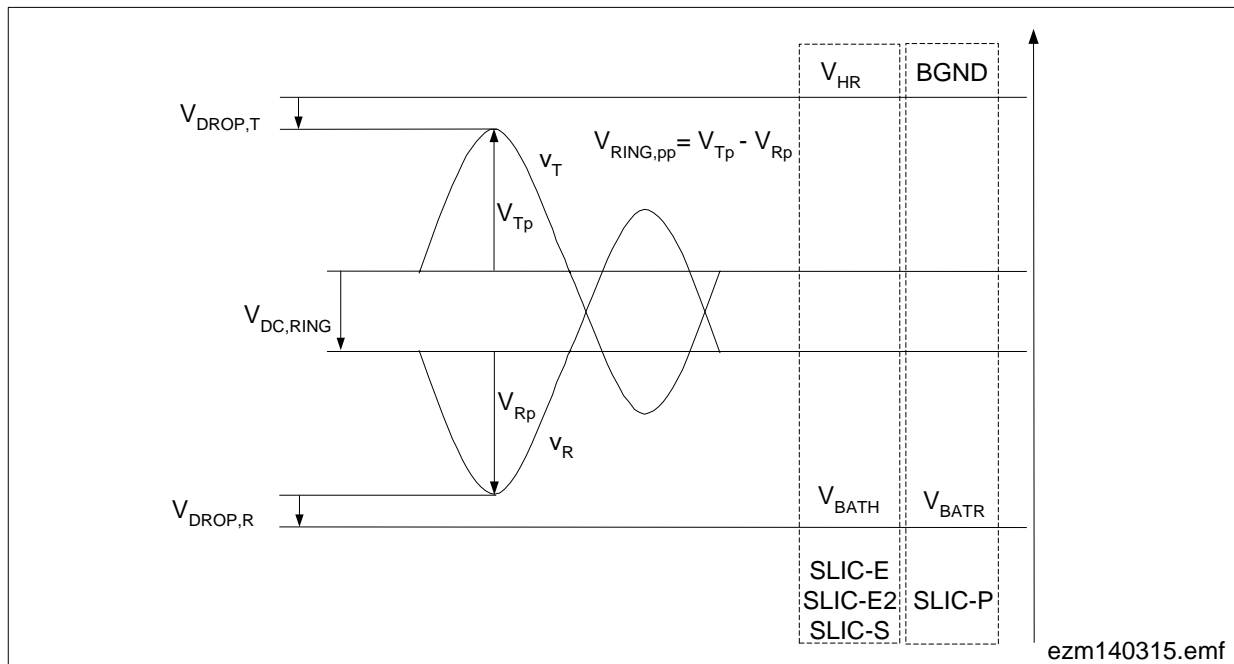

**Figure 26 External Ringing Zero Crossing Synchronization**
- A TTL compatible zero crossing signal has to be applied to the RSYNC pin of the SLICOFI-2x (see Figure 26).
A ring generator delay  $T_{RING,DELAY}$  (see DuSLICOS control parameters 2/3) can be programmed to consider the ring relay delay  $T_{RING-RELAY,DELAY}$  as shown in Figure 26.